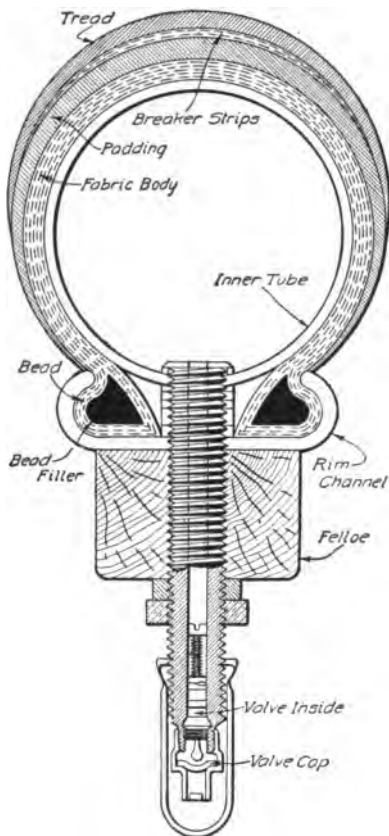
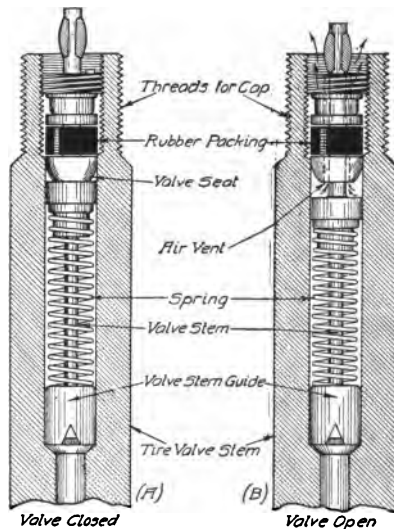

Fig. 98. Section through Assembled Tire and Tube, Showing Construction and Parts of the Tire and Tire Valve
Fig. 104. Views of Tire Valve Showing Closed and Open Positions
Considering a typical tire, Fig. 98, there enters into its makeup, starting from the inside, six or seven strips of fric-tioned fabric—that is, thin sheets of pure gum rubber rolled into intimate contact with each side of the cotton, making it really a rubber-coated material. Next, there is the so-called padding which is more or less pure rubber, has a maximum thickness at the
All this construction can be noted in Fig. 98, which shows a section through a tire, with the inner tube in place, the section being taken so as to pass through the center of the tire valve. This should be borne in mind when examining this figure, for the location of the inner tube inside the tire is likely to be misleading.
*Loosened Ridgy Tread.* When the tread of the tire gets into a flat, out-of-shape condition, with waves along its surface, Fig. 101, the ridges feeling loose when touched with the fingers, this is a sign that the whole rubber portion of the tread has become loosened from the fabric below it. (See the tire section, Fig. 98.) This condition is brought about by continued running with insufficient air in the tire, that is, the driver is responsible for it, and the cause is under-inflation. At the same time, the tire which has been run any distance or for any length of time without enough air will show rim cutting, usually.
This condition can be told at any time by examining the sides of the tire. If there is any sign of cutting or abrasion between the bead and the extreme edge of the tread, this may be considered as rim cutting, providing it is continuous around the tire and not restricted to one or two small spots. Referring again to Fig. 98, it will be noticed that on the lower part of the sides where the padding is tapering down to nothing and beyond the point where the tread has tapered to nothing and stopped, there is but the thicknesses of fabric to hold the tire together. That is, at this, the weakest point in the tire because there is the least need for strength here, the entire construction consists of some five or six layers of fabric with just a coating of rubber formed by the tapering end of the padding. It is at this point that the rim cutting is to be found.
**Tire Valves.** In Fig. 98 there is shown a section through the tire valve but on a small scale. As this is a very important part and little understood, a larger view is shown in Fig. 104. This is in two parts, *A* at the left showing the valve closed and *B* at the right indicating the position of the various parts when the valve is open. Note that the lower part of the valve is hollow, so that air inside of the tire has access to the valve seat. Note that the valve is held down on this by the threaded portion above it. This valve seat forms a slight taper, which rests against an equally slight taper inside of the valve stem.